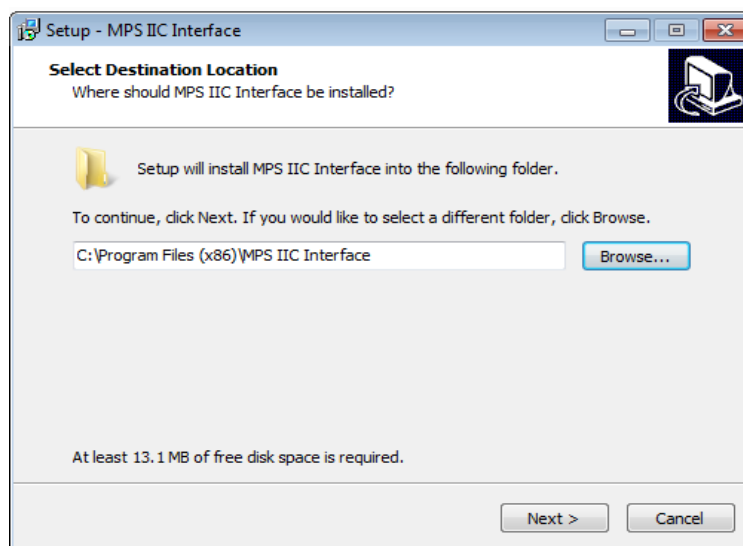

Figure 4: MPS I²C GUI Set-Up Guide
3. Once the download has completed, double-click the .exe file to open the set-up guide (see Figure 4).